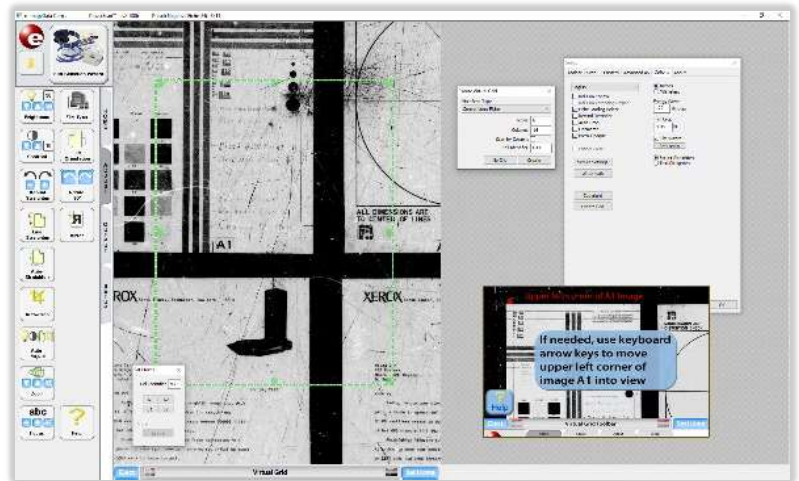

Figure 78
- p. Use the toolbar *Zoom* button to size the images within the viewing area with an approximate 1" border. *Figure 78*